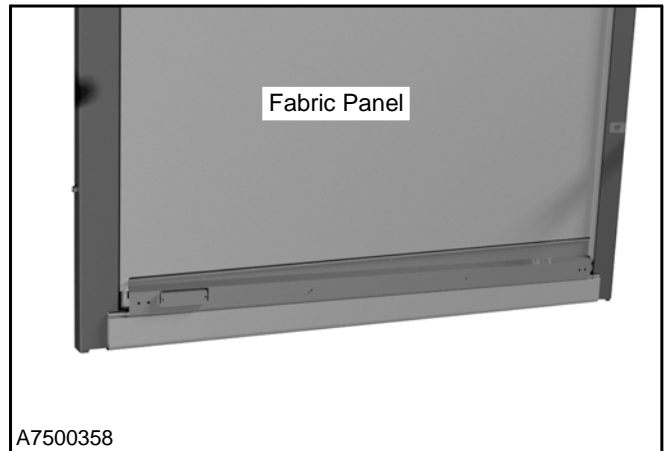

Figure 19
2. Inspect the fabric panel for holes, tears, and worn areas. Replace the panel if required. (See Figure 19.)